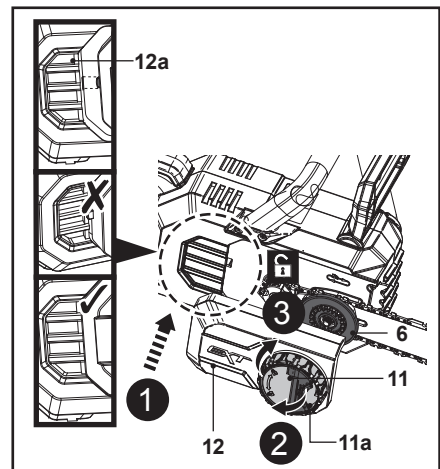

Fig. 6
8. Align and place the chain saw cover (12) over the mounting bolt (6); Flip the locking ring (11a) up and hold it, then slightly tighten the locking wheel (11) clockwise (Fig. 6, steps 1, 2, 3). Ensure that the spigot (12a) engages correctly in the slot. Do not tighten the locking wheel (11) completely as saw chain tensioning is required first.